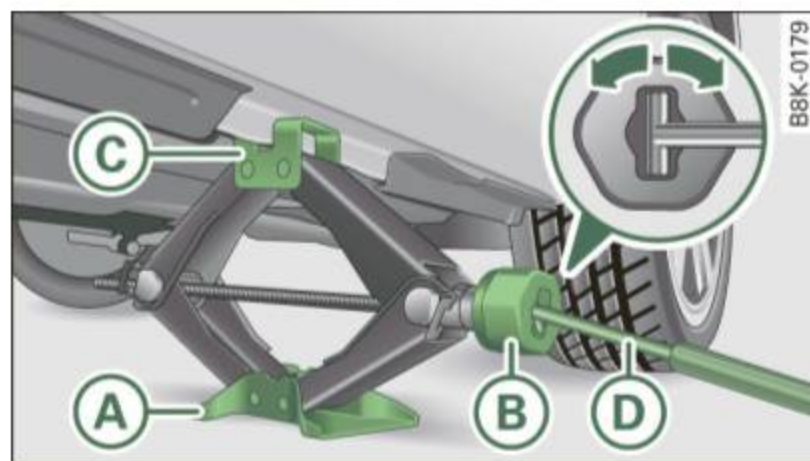

Fig. 225 Close-up:
- Place the jack on the **jack point** closest to the defective wheel/tire. Make sure that the base plate (A) is flat on the ground ⇒ ⚠.
- Crank up the jack on the handwheel (B) until it is high enough so that its claw (C) completely covers the **seam** on your vehicle ⇒ fig. 225.
- Now attach the rod (D) to the jack: Stick the rod into the opening on the handwheel ⇒ fig. 225. Turn the rod left or right to secure it.